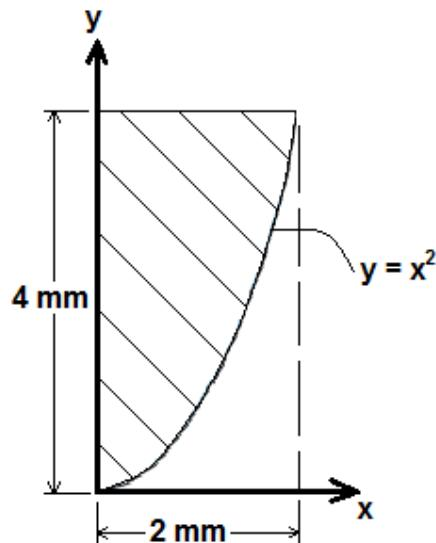

Figure Q5[a]
- Q5. [a].** By using an integration method, determine the centroid of the sectional area shown in Figure Q5[a]. Show your solution by analyzing both vertical and horizontal elemental areas.